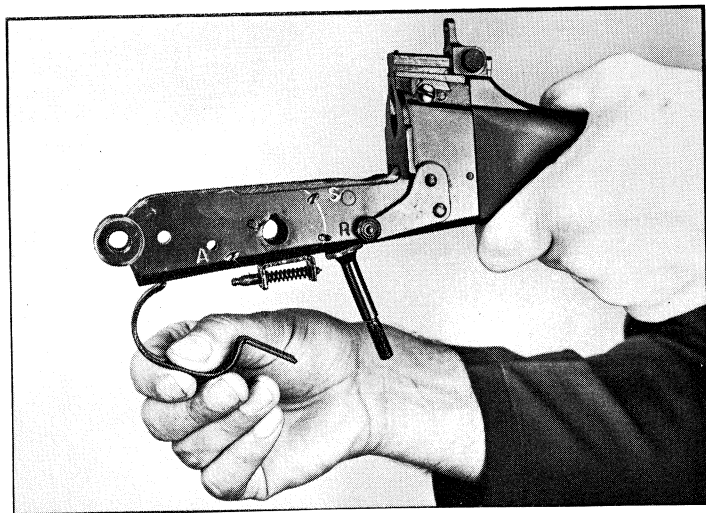

Fig.105
f) **Trigger guard.** — Remove the trigger guard, by tilting it forward while slightly pulling it down (fig. 105).